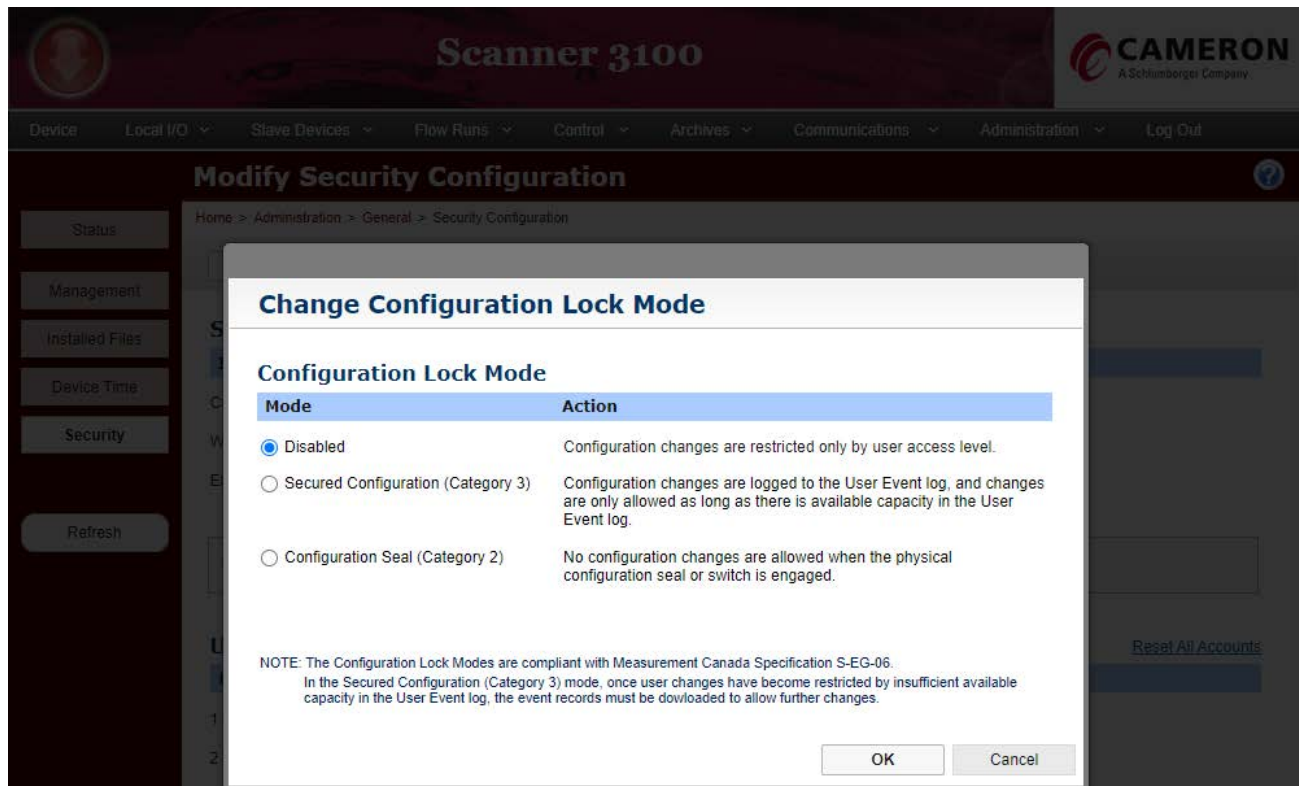

Figure 1.13—QRATE Scanner 3100 Web Interface Configuration Lock Mode
4. The Configuration Lock Mode will appear (see Figure 1.13).